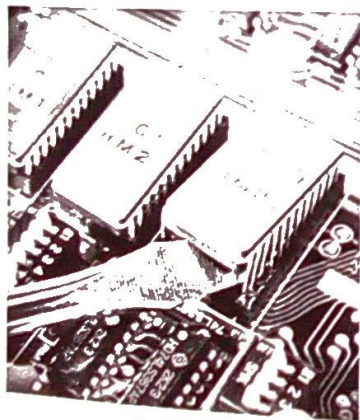

Figure 2.
Step 3. Remove the chips in sockets 1B, 2B, and 3B by using a flat-blade screwdriver as shown in Figure 2.